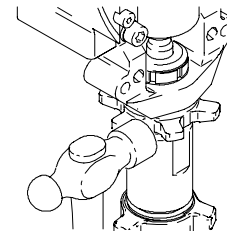

Fig. 16 7673B
3. Fig. 16. Screw jam nut down onto pump until stops. Screw pump up into bearing housing until it is stopped by jam nut. Back off pump and jam nut to align pump outlet to back. Tighten jam nut by hand, then tap 1/8 to 1/4 turn with a 20 oz (maximum) hammer to approximately  $75 \pm 5$  ft-lb (102 N-m).